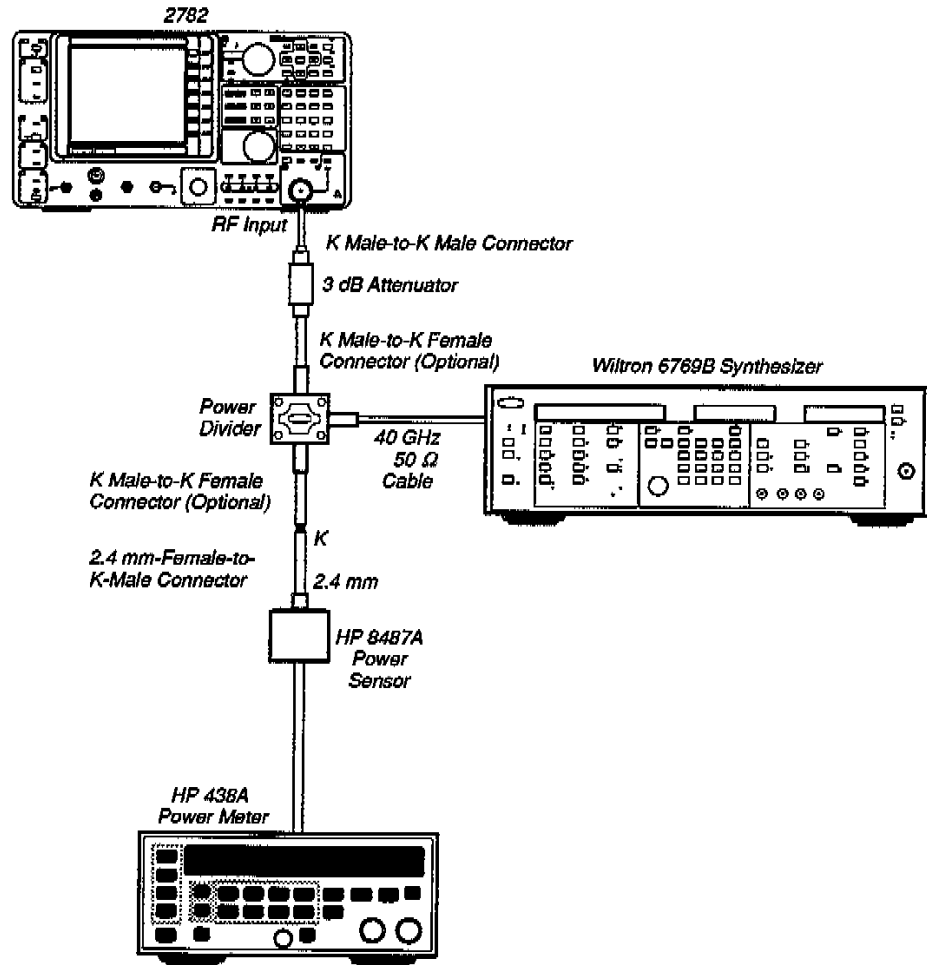

Figure 3-2. Test Fixture Setup for High Frequency Flatness Tests.
4. Connect the test-fixture components as shown in Figure 3-2 and connect them to the 2782.
From this point on, CATS.EXE handles the flatness verification automatically. All you have to do is change equipment periodically (as shown in Figures 3-2 and 3-3). CATS.EXE prompts you for these changes.